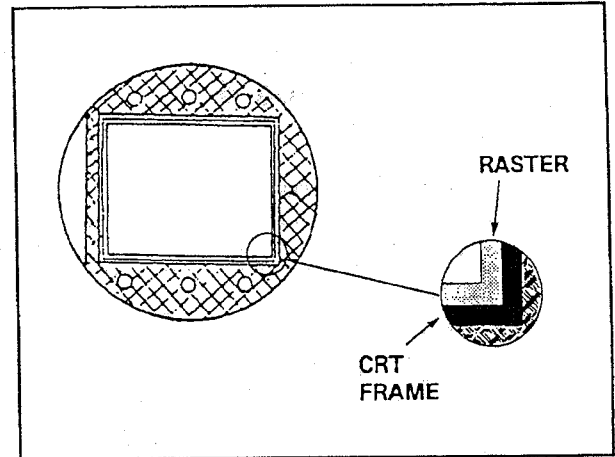

Figure F11.
6. Carefully observe the frame portion of the screen and adjust VR7403 so that the raster is just appeared slightly as shown in Figure F11.